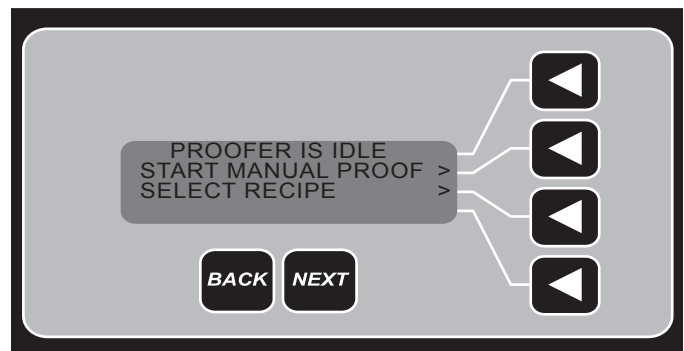

Fig. 2
The LCD panel displays two options after the ON/OFF button is pressed (Fig. 2). The arrow buttons on the right point to the selectable features.
- Press the START MANUAL PROOF operation arrow button (Fig. 2).